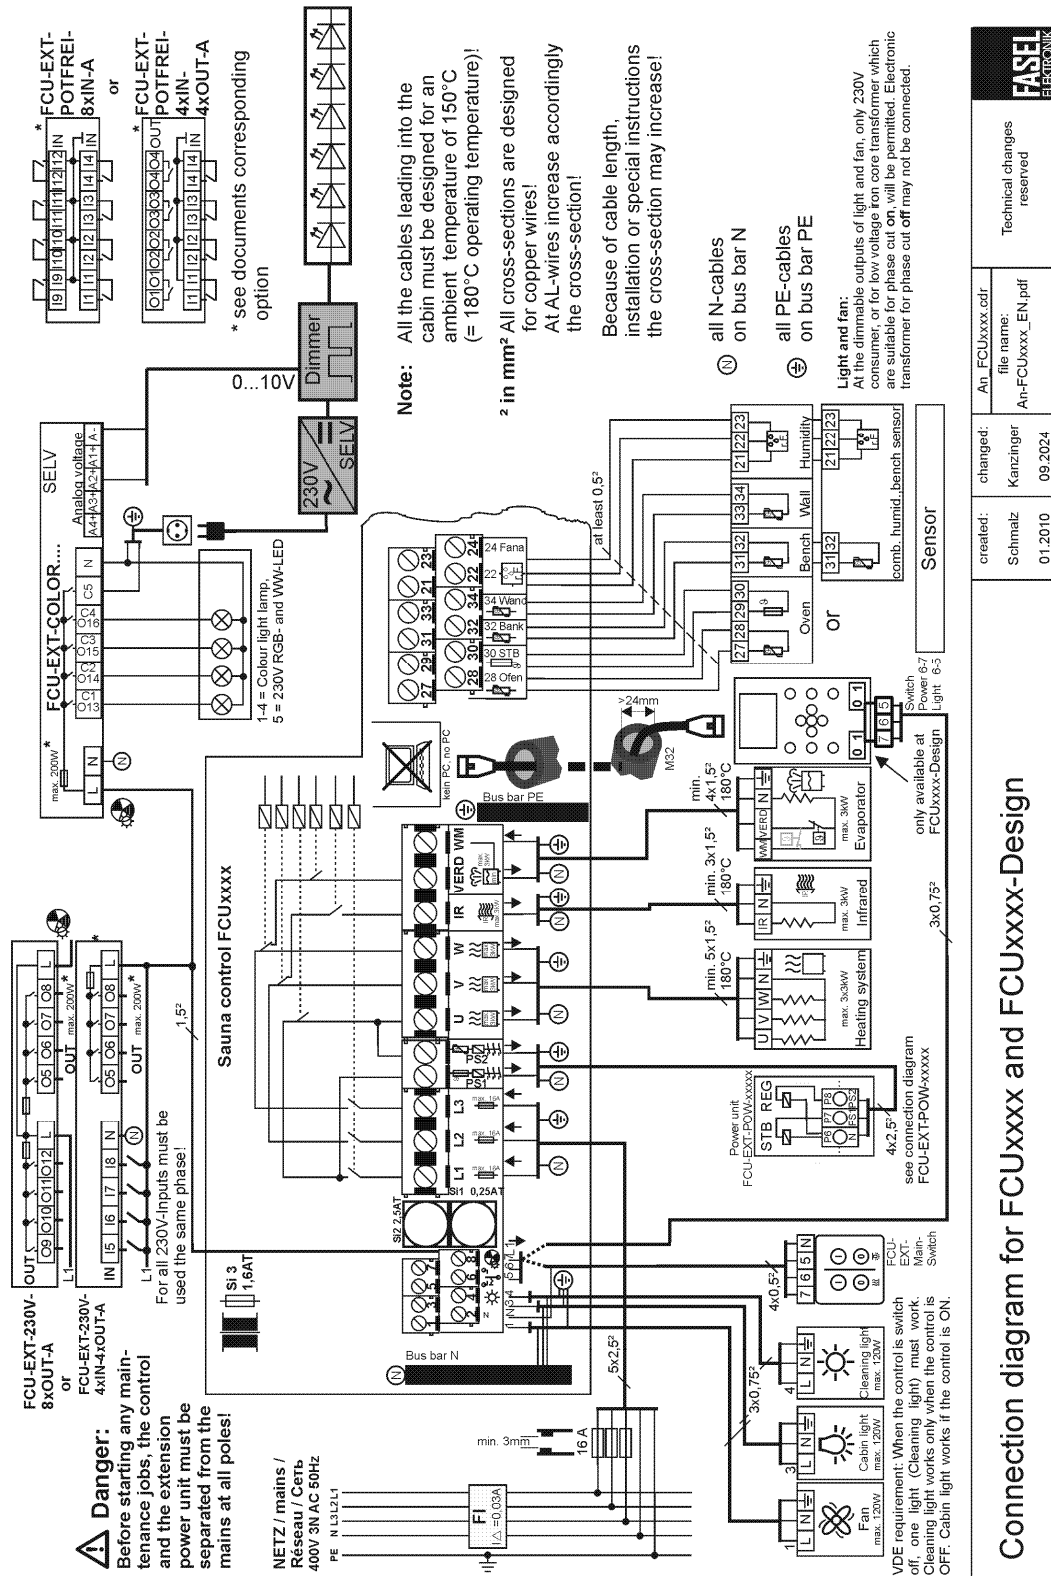

Figure 12: Electrical circuit diagram
- Have the cable specifications given in Table 2, page 10 and the electrical circuit diagram Figure 12, page 28 been followed?
- Have the cable specifications as per Table 2, page 10 and the electrical circuit diagram Figure 12, page 28 been adhered to?